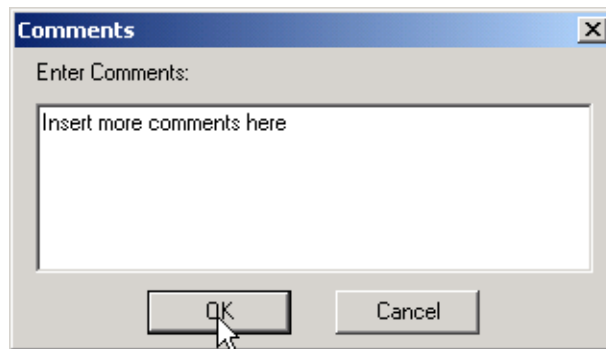

Figure 31-23. Comments dialog with the comments to be inserted in the opening or closing script.
- 1 Double-click on any task, select the **Closing** or **Opening Script** tab, right-click anywhere on any statement, and select **Comment** from the **Insert** drop-down menu. The Comments dialog appears (see Figure 31-23, below).